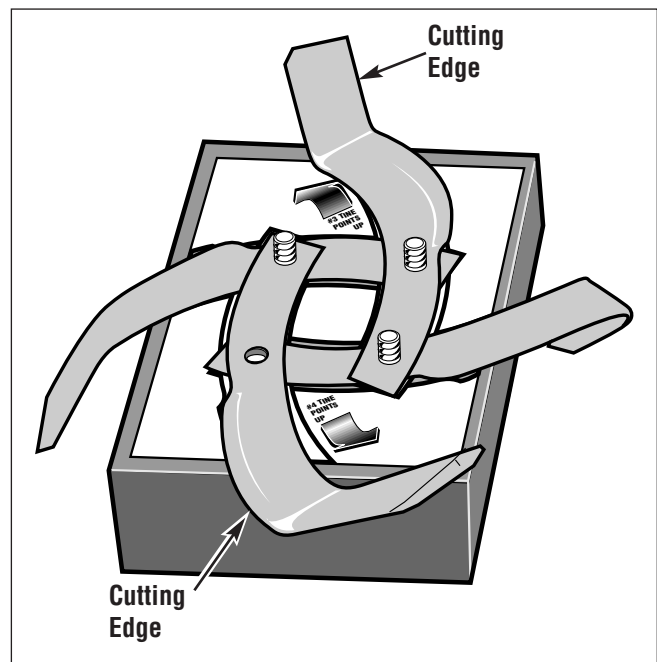

Figure 16: Insert bolts.
B. Place three bolts through the holes as shown in Figure 16.
C. Place two *right-curved* tines (shown in Figure 16) onto the bolts so that the tines cover the outlines of tines #3 and #4. These tines are **opposite** each other on top of the tines already in place. The tips of these tines face *upward* as shown.